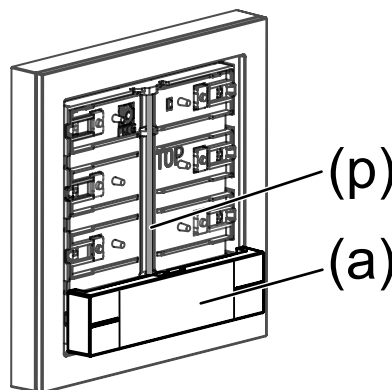

Figure 6: Position rocker straight
- Position the rocker (a) straight (see figure 6).